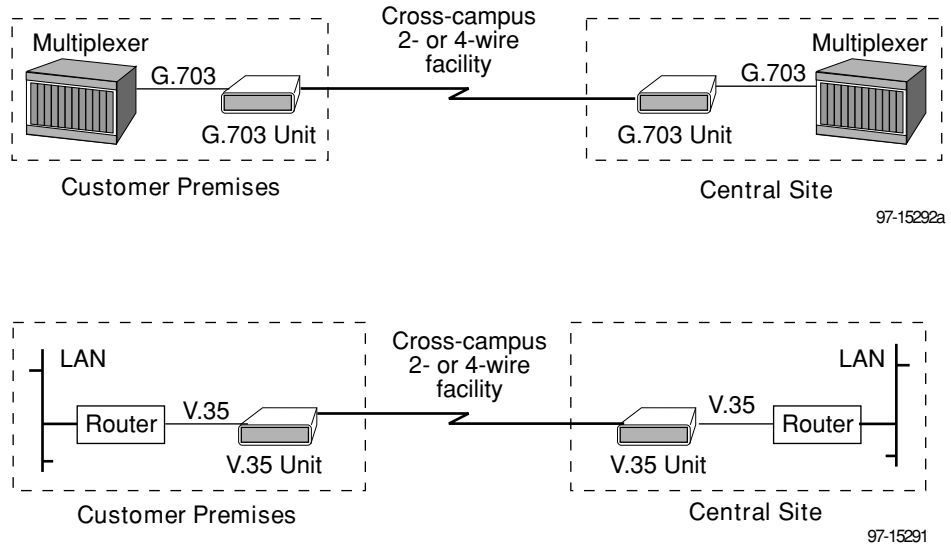

Figure 1-6. Campus Network Applications
HotWire Model 7925 units can be used in campus applications where long loop distances normally require the campus to contract with the local telephone exchange carrier to deliver private line services across the campus. **Figure 1-6** shows two typical campus applications where remote routers or multiplexers are interconnected across a campus using two HotWire Model 7925 units. In each pair, one unit is configured as a central site (CO) and the other is the remote site (CP).